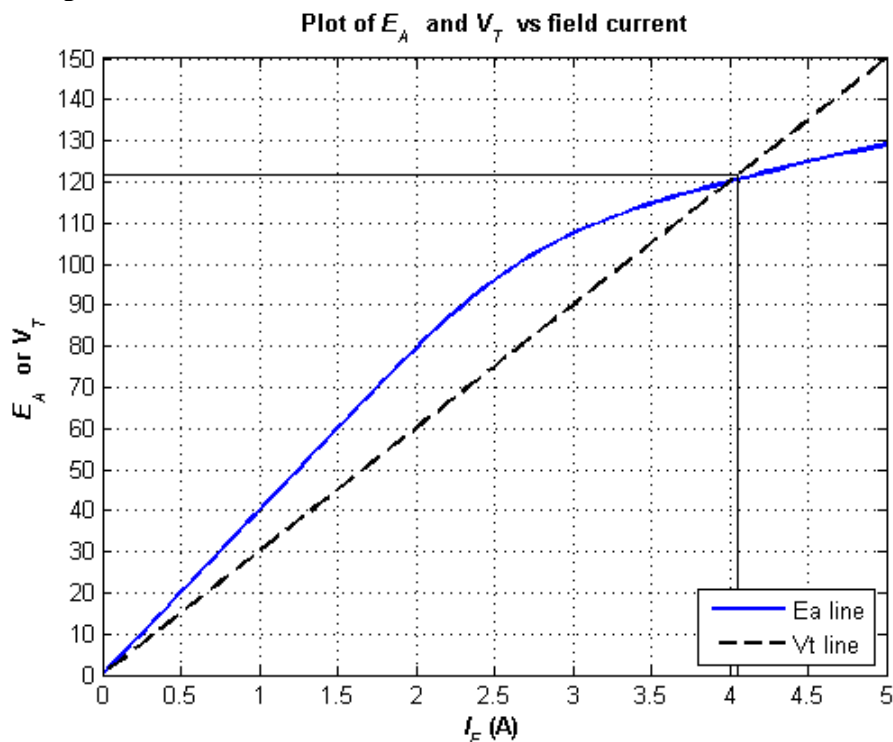

**FIGURE P8-9**
- 8-25.** The machine in Problem 8-22 is reconnected as a shunt generator and is shown in Figure P8-9. The shunt field resistor  $R_{\text{adj}}$  is adjusted to 10  $\Omega$ , and the generator's speed is 1800 r/min.